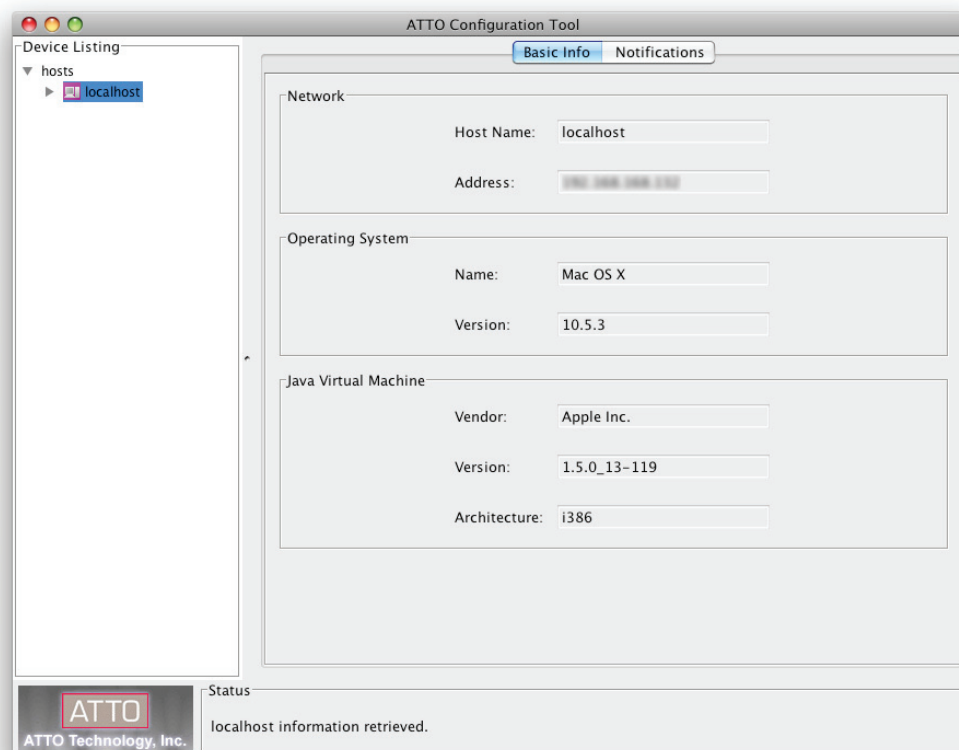

Figure 1
- The **Basic Info** tab displays information about the booted operating system. See **Figure 1** on page 3.